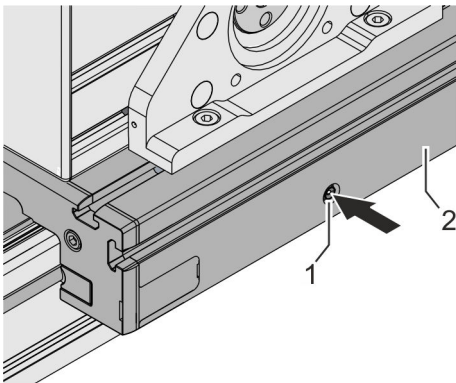

Fig. 44: Lubricating the guide shaft
- 1.** → Clean the lubrication points (Fig. 44/1) on both sides of the guide carriage (Fig. 44/2).
Place the lubricant press on the lubrication nipples (Fig. 44/1) on both sides of the guide carriage (Fig. 44/2) one after the other and lubricate the guide carriage.
- 3.** → Move the guide carriage (Fig. 44/2) several times to distribute the lubricant evenly.